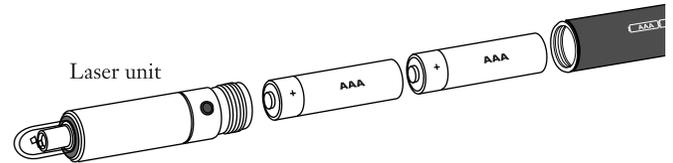

Figure 3
4.1 To replace the batteries in the VFL-350 (Figure 3):
- b) Insert two AAA alkaline batteries as shown in Figure 3.